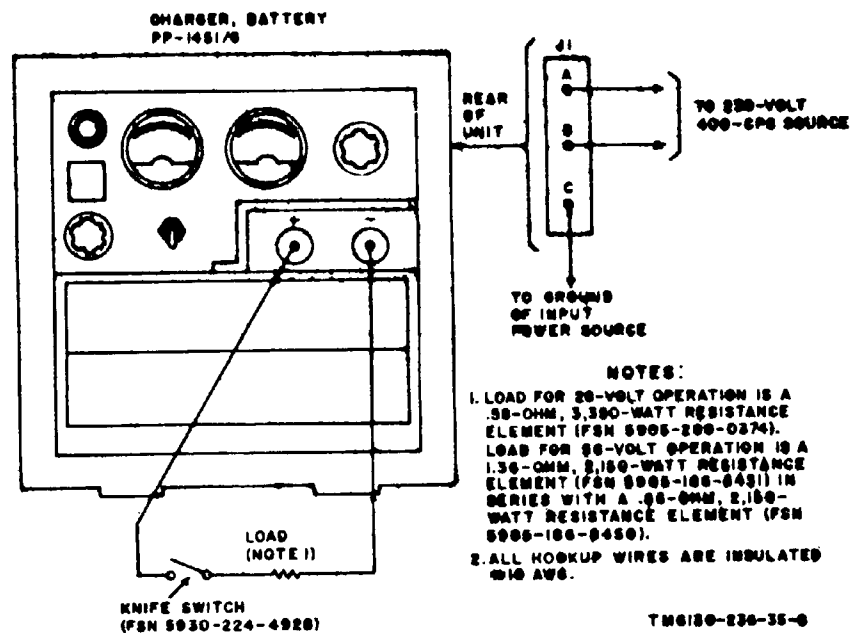

Figure 3-4. Two hundred and thirty volts, 400-cps input power test connection diagram.
*b. Test Connections and Conditions.* Connect the equipment as shown in figure 3-4. Be sure that the knife switch in series with the load is in open position. This test is written for 230-volt, 400-cps operation.